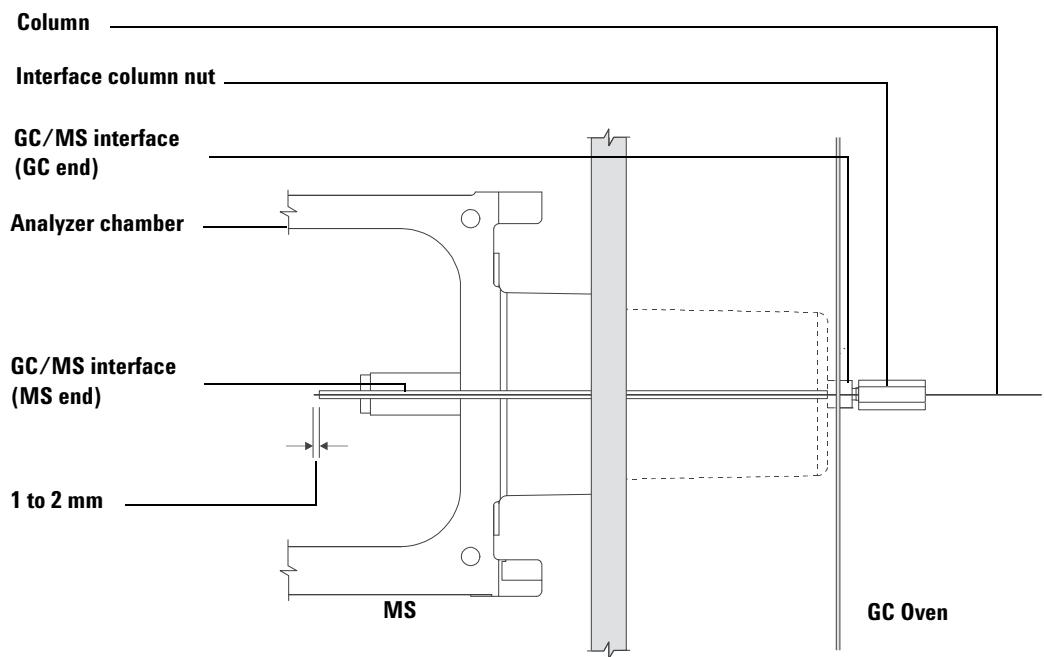

Figure 4 Installing a capillary column in the GC/MS interface
- 7 Slide the column into the GC/MS interface (Figure 4). Adjust the column so it projects 1 to 2 mm past the end of the interface.